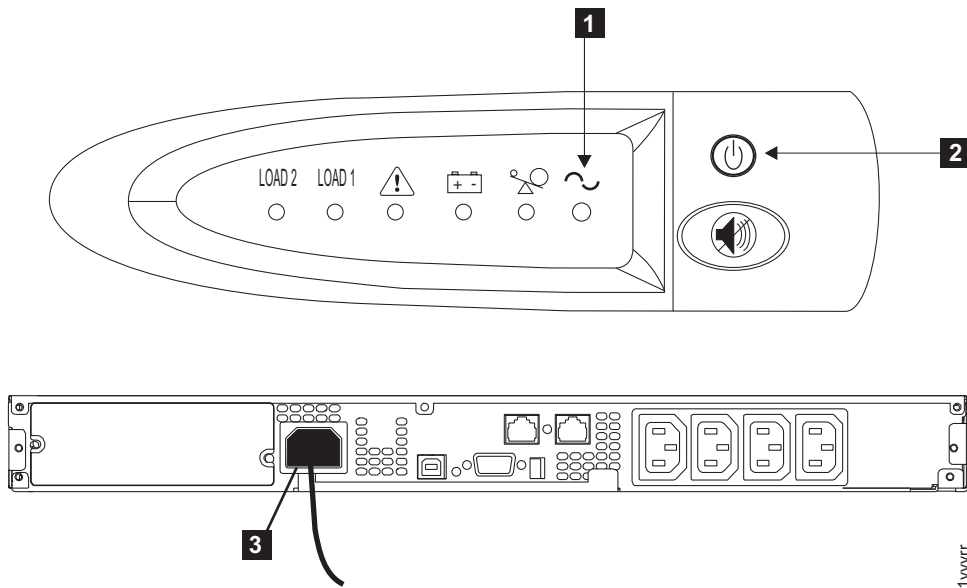

Figure 319. Front and back panels for the 2145 UPS-1U
2. Press and hold the on/off button **2** until the power light **1** is extinguished (approximately five seconds). On some versions of the 2145 UPS-1U, you need a pointed device, such as a screwdriver, to press the on/off button. The 2145 UPS-1U enters standby mode, with all indicators off. Figure 319 on page 284 illustrates the front and rear views of the 2145 UPS-1U.